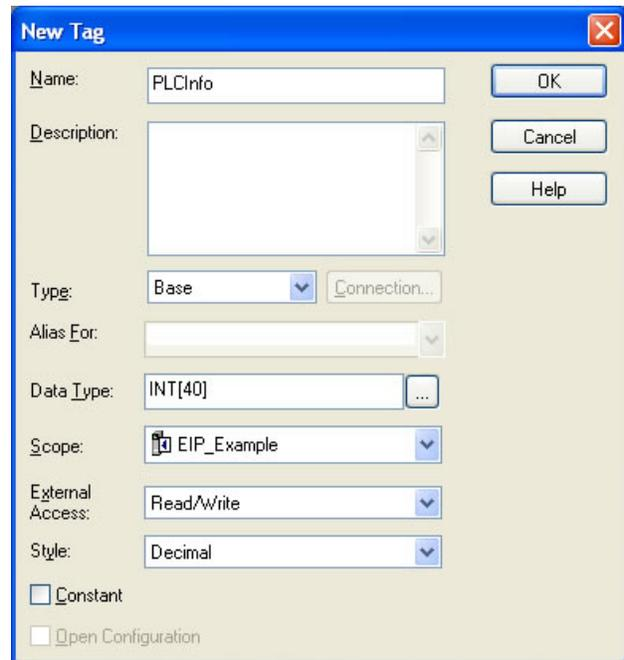

Figure 2: Create PLCInfo Array Tag
2. Define an array named "PLCInfo", which is comprised of 40 elements of data type INT (refer to Figure 2). Click "OK".